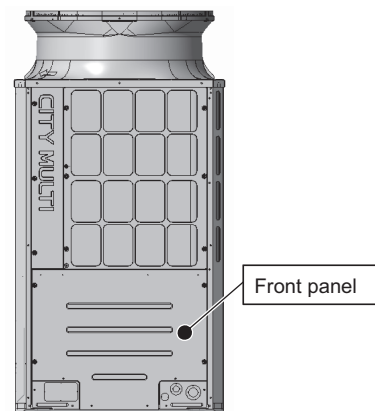

Figure 12
- (5) Screw down the front panel with eight screws. (See Figure 12.)